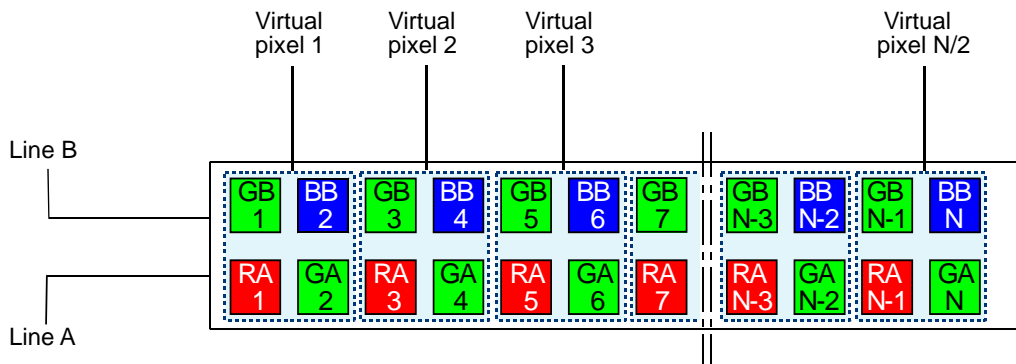

Fig. 13: Virtual Pixels of the RGB Line Acquisition Mode
- When exposure is complete, the pixel values are read out and processed in the following way to serve as pixel values of virtual pixels (see Figure 13):